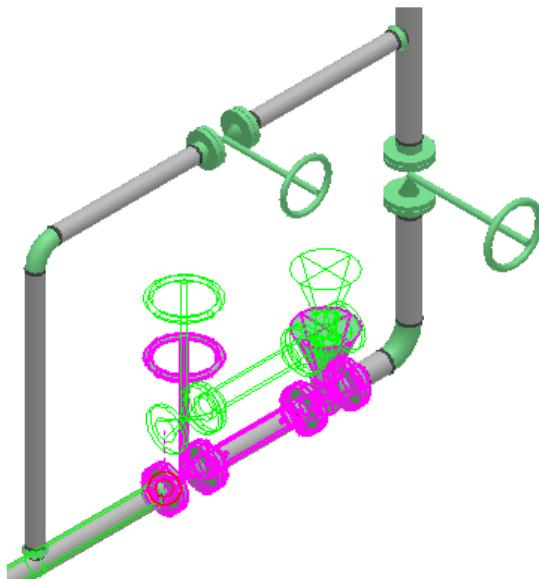

Figure 22: Selected Features Outline in the Graphic View
10. Key in **0 ft** for **E**, **0 ft** for **N** and **1 ft** for **EL** on the **PinPoint** ribbon to move the selected features **1ft** up. Before you accept the placement position, the selected features after moving should resemble Figure 22.